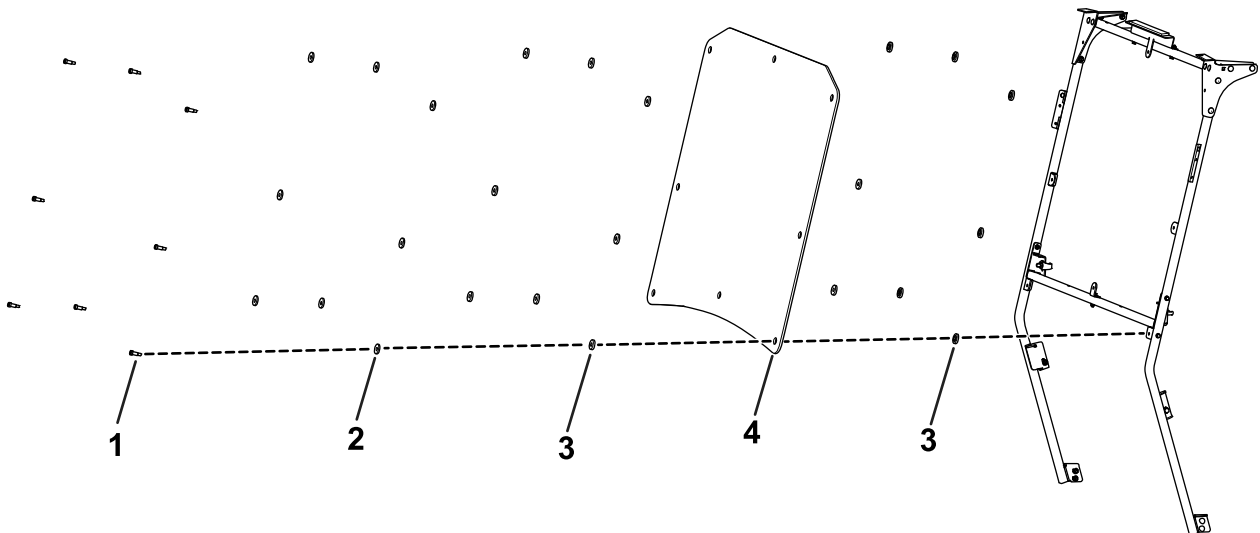

Figure 62
3. Install the windshield with 8 shoulder bolts (5/16 x 1-1/4 inches), 8 backup washers, 16 rubber bushings, and 8 nuts (5/16 inch) as shown in Figure 62.